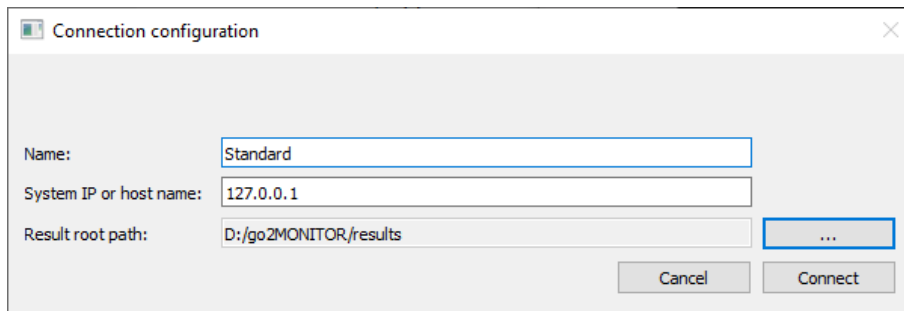

Figure 241: Connection configuration
- The operator package contains a <Connection> menu with options for editing or selecting the current system connection (see Figure 241). It is needed only if there is the need to change between different system connections or modify a system connection. A system connection contains a name, the IP-address where the system is running and a path to the storage location of the result-files. If another system connection is selected in the <Connection> menu the current operator application is asked to be closed. The chosen system connection will be used after the operator application is restarted. The current system connection is always shown in the status bar.